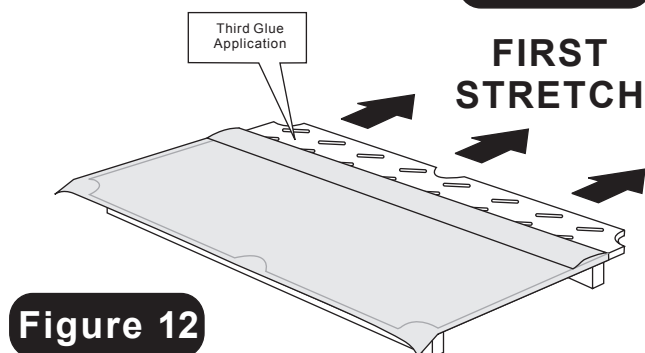

Figure 12
7. Fold cloth away from other side to expose Play Bed for your third glue application. (See **FIGURE 12**). Apply cement to this side in the same manner. Allow cement to become tacky, wait at least one minute.